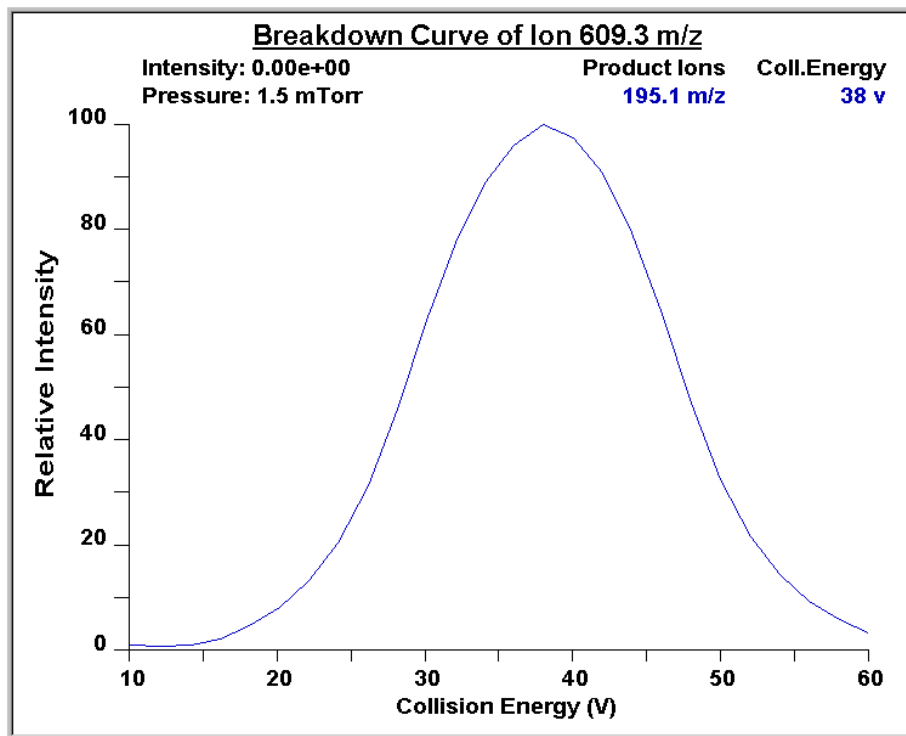

Figure 44. Breakdown curve of reserpine showing the relative intensity of the product ion at m/z 195.066 as a function of collision energy
- If the compound optimization procedure finishes without errors and the breakdown curve of the 195.066 fragment is Gaussian-shaped (Figure 44) or is a smooth, positive-sloped curve, go to step 6.